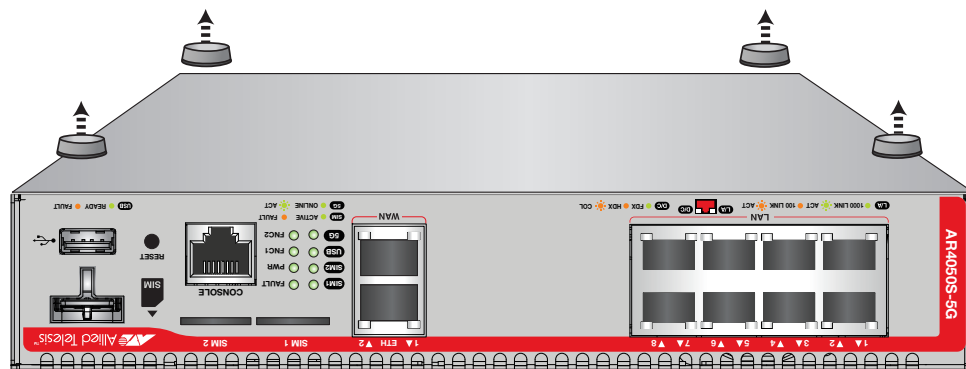

Figure 25. Removing the rubber feet
- ❑ If rubber feet are attached to the base of the router, remove them by prising off with a flat-head screwdriver, as shown in Figure 25.
1. If the rubber feet are attached to the bottom of the router, remove them by prising off with a flat-head screwdriver. See Figure 25.